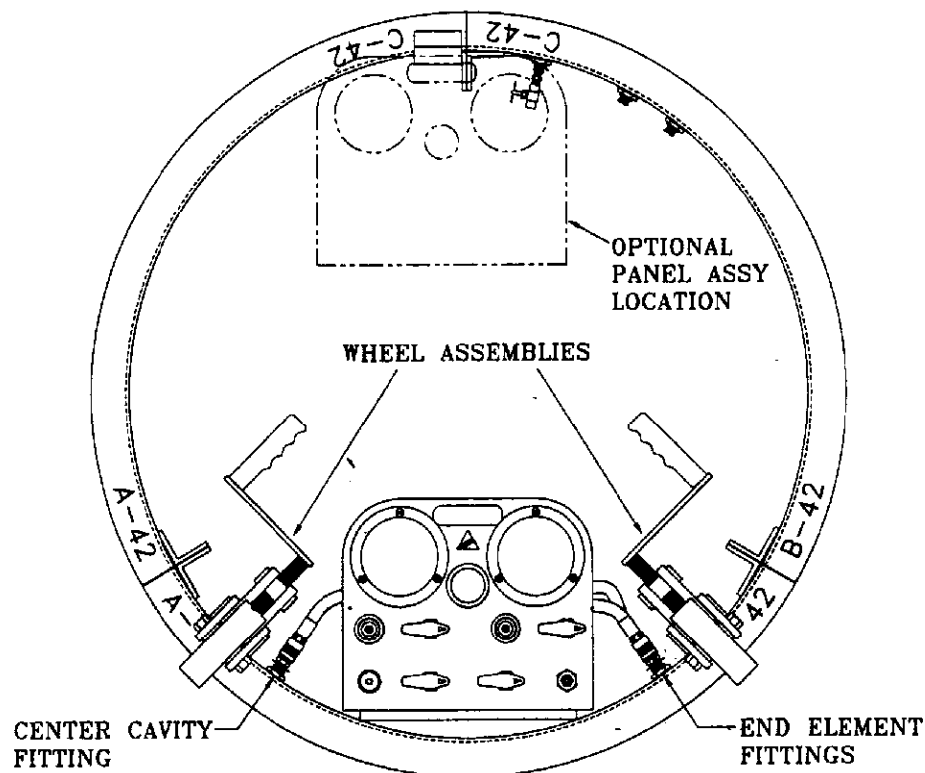

FIGURE 5
1. Refer to FIGURE 5. Using the 1/4-20 x 1/2" bolts and 1/4 lock washers, mount the control panel on the control panel mounting pad located at the bottom of the joint tester frame. A bracket is also included at the top of the weld assembly as an optional location for the control panel.
3. Refer to FIGURE 5. Fasten the wheel assemblies to the joint tester using the hardware pre-installed in step 1 on page 7.